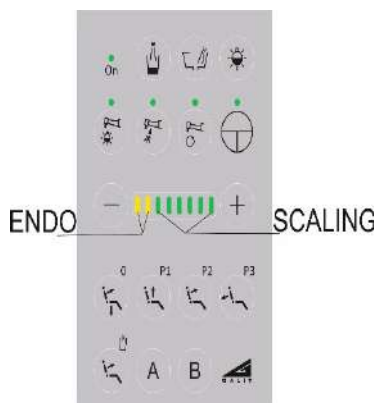

Figure 5.2.4.6
- select a necessary mode of operation of the scaler (**PERIO/ENDO/SCALING**) on the control panel of doctor table (Figure 5.2.4.6). (Inserts or files for the scaler must be chosen according to the mode of operation of the scaler).